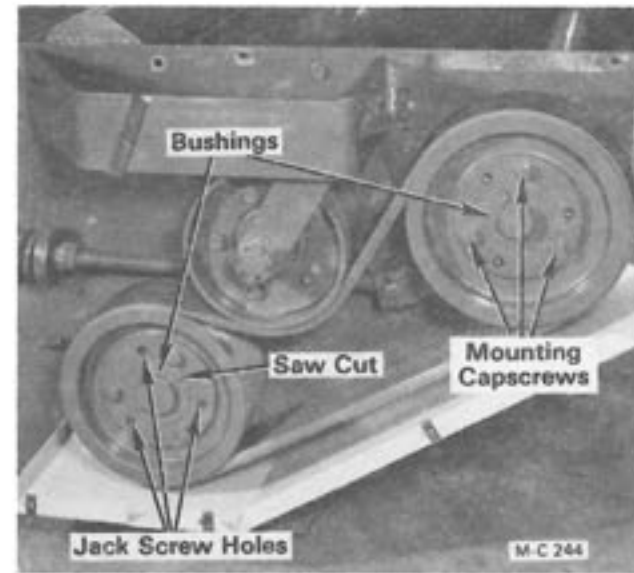

Figure 37
- Remove the three mounting capscrews, see Figure 37. Thread the capscrews into the three jack screw holes in the pulley. Tighten the three capscrews progressively and evenly until the pulley is loose on the bushing.